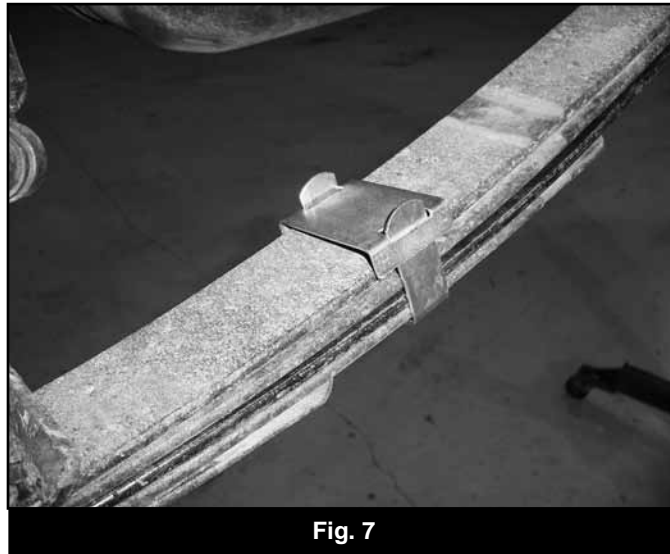

Fig. 7
44. Remove the C-clamps from the leaf pack and ensure the individual leaves are all in line with each other. Install the provided bend-over style clamps on the leaf pack (Fig 7). Install one clamp on each side of the center pin about 12" from the center pin. Bend the ends of the clamps over to secure them to the spring.